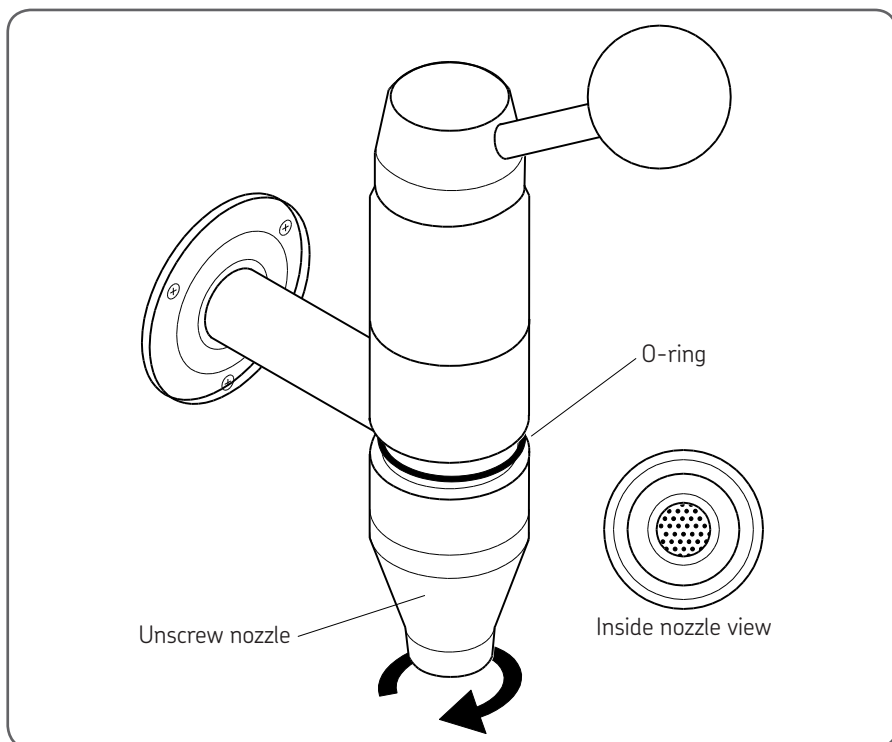

Fig 39 Removing faucet nozzle
- Remove faucet nozzles by unscrewing, clean heads and o-rings. See figure 39.